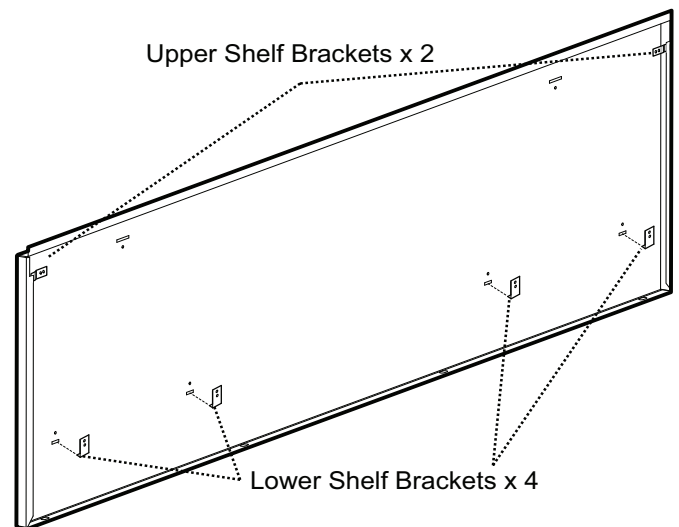

Figure 14: 48" Back of Wall Plate
2. Mount the (2) upper shelf brackets and the (3) lower shelf brackets on the 30" & 36" models or (4) lower shelf brackets for the 48" model at the locations outlined on the templates. Secure with (10) 1" (25.4 mm) screws provided.
5. Install the wall plate by setting the corner notches (back of wall plate) atop the (2) upper shelf brackets.
6. Slide the shelf upwards until the bottom engages with the (3) lower brackets on the 30" & 36" models or (4) brackets for the 48" models (*Figure 14*).